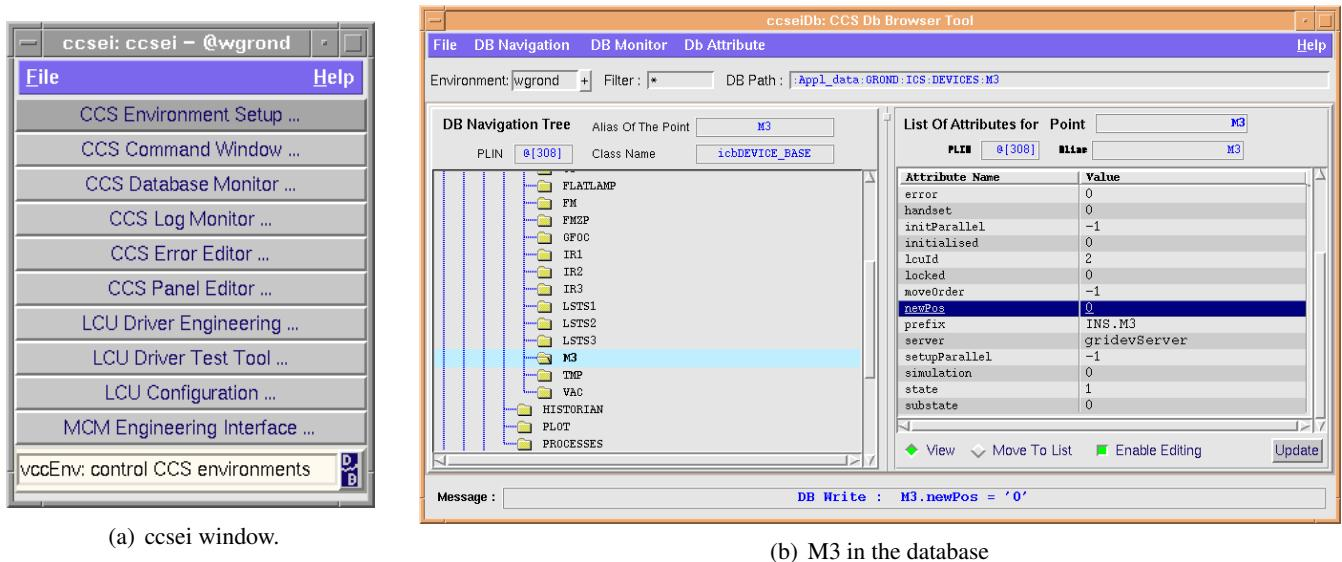

Figure 10.10: Writing the M3 position in the database
- Write the mirror position in the database (Fig. 10.10, p. 86)